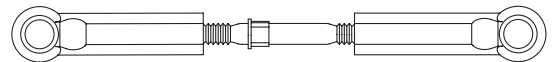

Figure 47B
1. Thread a plastic rod end (4) onto each end of a 1.375" turnbuckle (141). Tighten both rod ends equally until the rod is the same length as the assembled rod in Figure 47B. Make two of these assemblies.